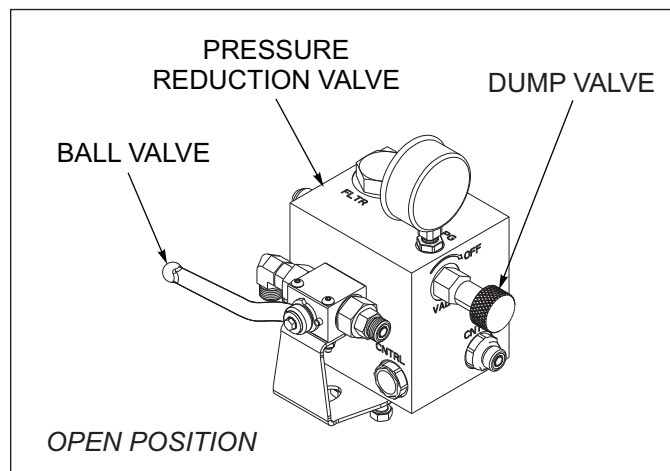

Figure 4-5: Pressure Reduction Valve Manifold
The Ball Valve between the Pressure Reduction Valve Manifold and the machine system needs to be turned “OFF” during field operation (handle upright). The Ball Valve should only be opened to 1.) check the system operating pressure present, and 2.) adjust the system pressure if it is too high or too low (below 2,000 psi). *See Figure 4-5.*
1. Connect the pressure and return hydraulic lines connected to the Pressure Reduction Valve Manifold, to the tractor. *See Figure 4-5.*